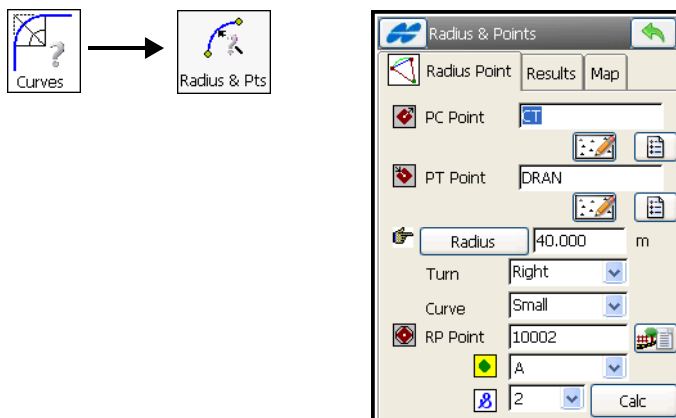

Figure 10-11. Radius & Points
1. On the **Radius and Points** screen (Figure 10-11 on page 10-11), select the initial data for the task: the curve points, the radius parameter, the direction of turn and whether the smaller (less than 180 degrees) or the larger curve (more than 180 degrees) between the curve points is to be considered. Also, enter the resulting RP point name and code.